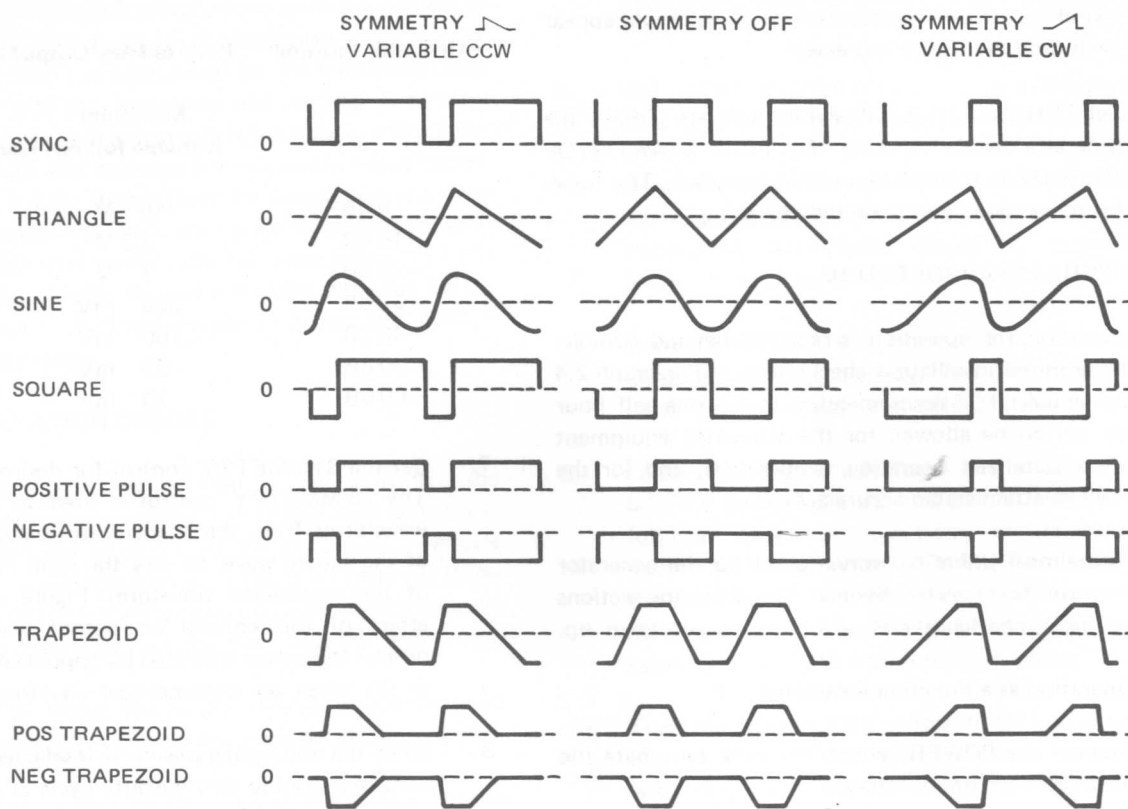
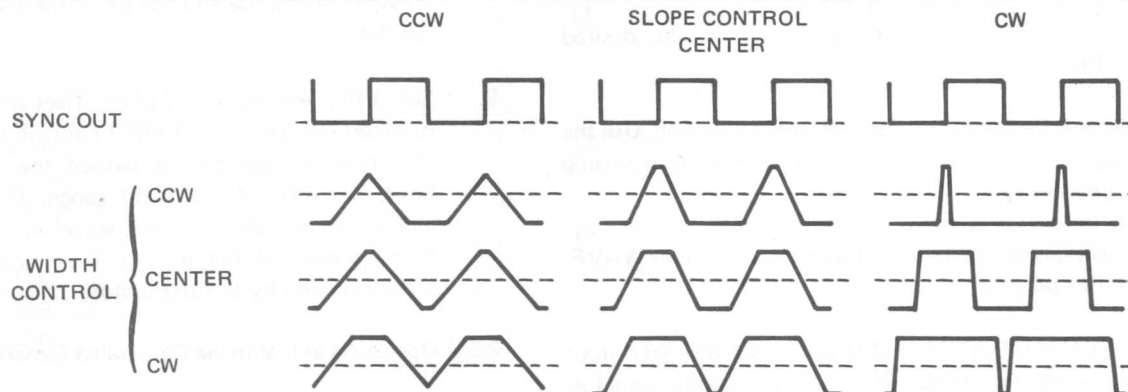

Figure 2-4. Effect of Symmetry Adjustment on Waveforms
Figure 2-5. Effect of SLOPE/WIDTH Control on the Trapezoid Waveform
7. Set the SYMMETRY control for desired asymmetry. The SYMMETRY control is used to develop ramp waveforms from the triangle, to vary the duty cycle of the square wave, to vary the ratio of rise/fall time of the trapezoidal waveform. Figure 2-4 shows the effect of this control on output waveforms. The output frequency is divided by approximately a factor of 10 when an asymmetrical waveform is selected.
8. When the trapezoidal waveform is selected, the WIDTH control is used to vary the duty cycle of the waveform and the SLOPE control is used to vary both rise and fall times. See Figure 2-5. Use the SYMMETRY control if asymmetrical rise and fall times are desired. See Figure 2-4.